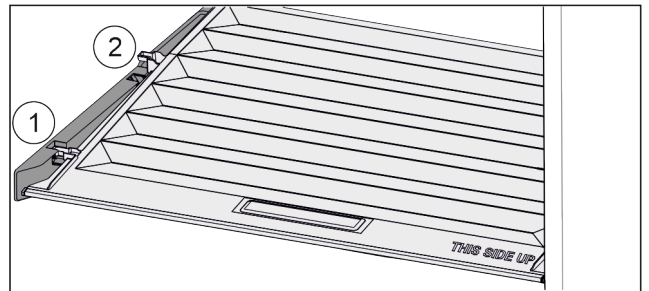

Fig. 41
- ▶ Pull the lid up at the front to the opening in the retaining parts Fig. 41 (1).
- ▶ Lift from the back and pull it up and out Fig. 41 (2).